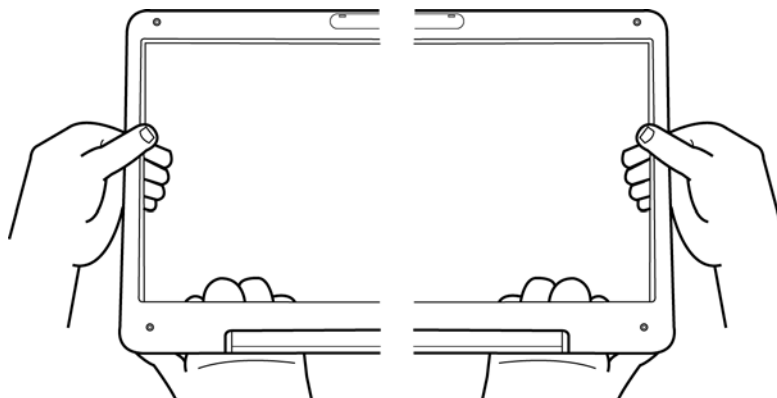

Figure 4.33 Removing the bezel from the hinge wall
4. Push the bezel from the left and right side as shown in Figure 4.33 and remove the bezel from the display assembly.